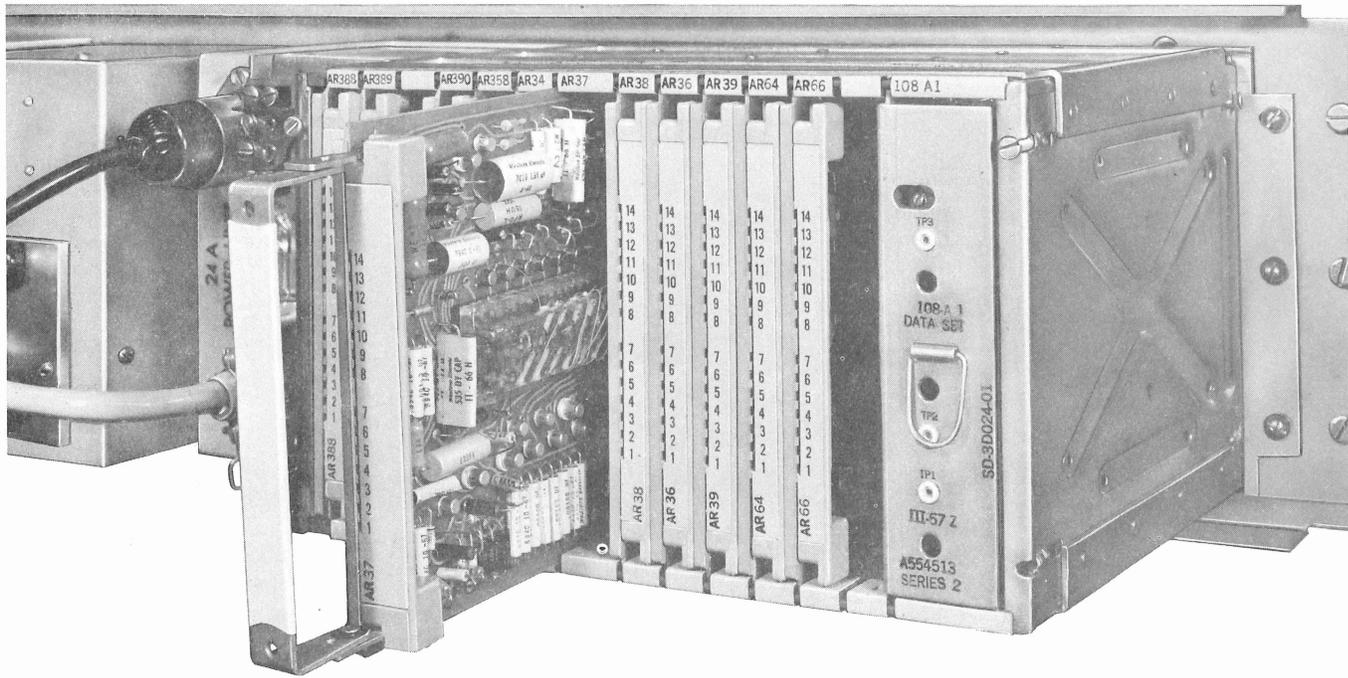

Fig. 4—CP AR37 Removal
2.07 Using the 748A tool assembly (card-extracting tool), remove CP AR37 from DAS 820B5 (Fig. 4) as follows: